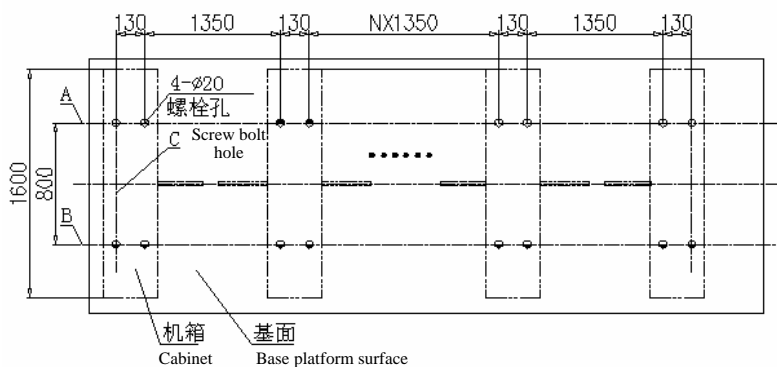

Fig. 8
- 3) After the surface of the base platform is prepared, draw parallel lines A and B based on the central line, then, determine the installation holes respectively on lines A, B and C. The installation size is given in Fig. 8